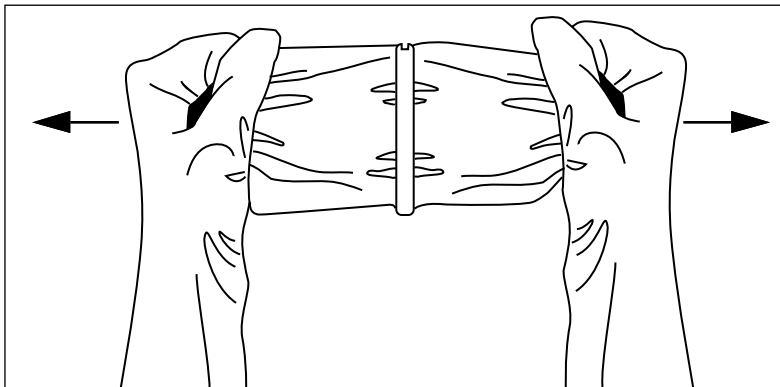

Figure 39. Removing Sealing Compound Clip
4. Remove bag of “Sealing compound” from foil package. Grasp the ends, one in each hand, then pull sharply to remove plastic clip [Figure 39].